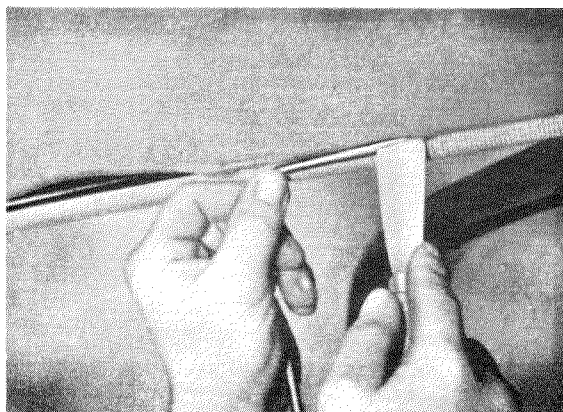

Fig. 69 — 1/1
8. Along the roof side rail (above the door opening) the headlining is held by a 5 mm rubber tube under a fixing rail. Use an awl to pry out the end of the rubber tube from between headlining and draft excluder at the left and the right front end of the headlining (see Fig. 69 — 2/2). Then grip the end of the tube with one hand and carefully pull out the rubber tube from the fixing rail along the roof side rail. Then pull out the headlining from under the fixing rail.
13. Force the headlining along the door opening under the fixing rail using a filler knife and then press the rubber tube home (Fig. 69 — 1/1).